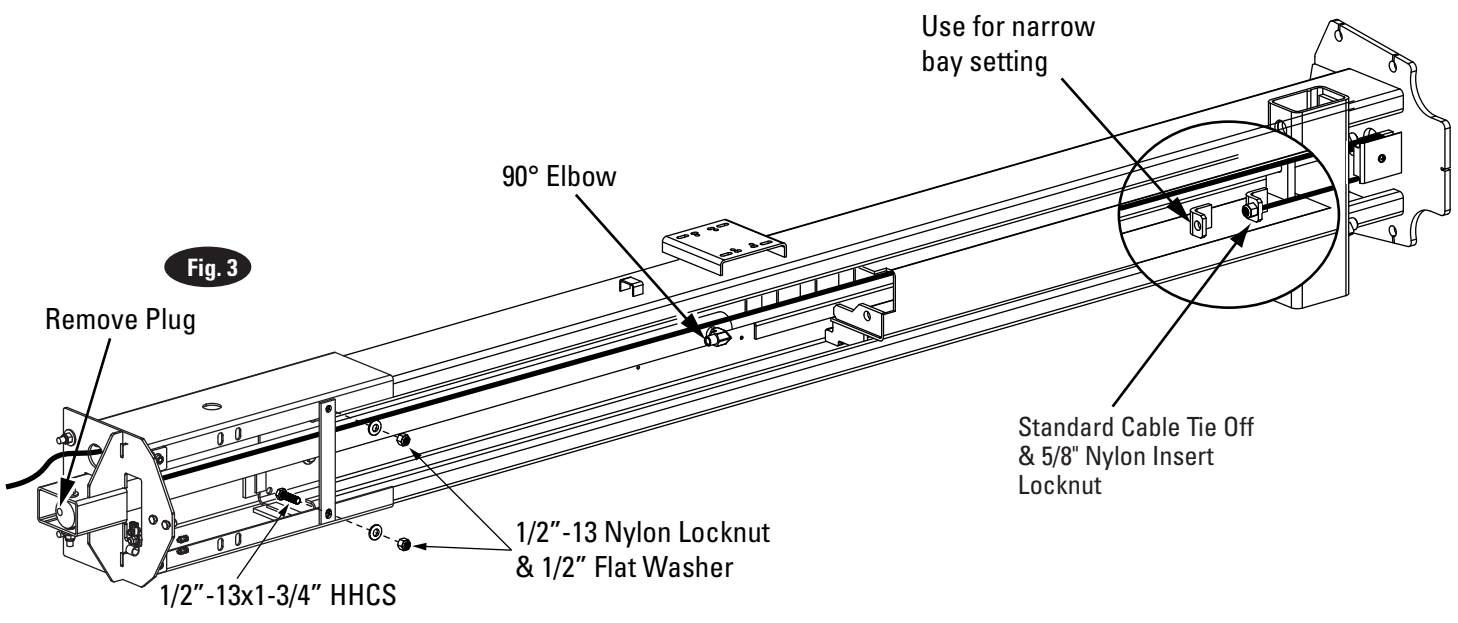

Fig. 3
3. Cylinder Fitting: Prior to standing up lift columns, install the 90° elbow fitting to the cylinder and equalizer cable to the bottom of the carriage Fig 3. Remove plug from the top of the cylinders and install the appropriate fittings per Fig. 12a.
- D) Pull the cable back down, Fig. 3.
5. Tie Bar: Attach tie bar to column with (2) 1/2" - 13x1-3/4" HHCS, (2) 1/2" Flat Washer, and (2) 1/2"-13 Nylon Locknut, Fig. 3.